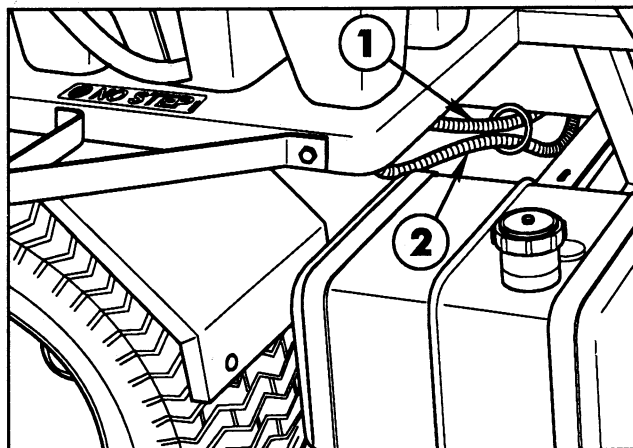

Fig. 5
9. Route the Chem 2 Injector Control Cable and the Chem 2 Monitor Control Cable through the Cable Support Ring on each of the Saddle. See Fig. 5.